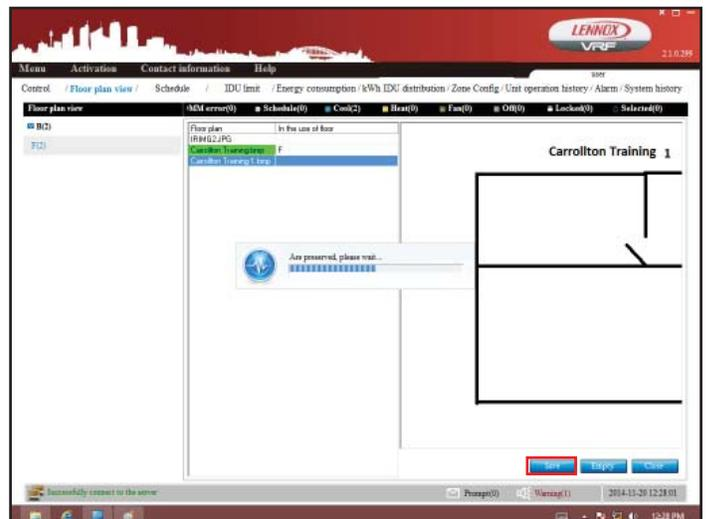

Figure 20. Save Floor Plan
4. Tap the Save button. The floor plan will be saved to the zone. See figure 20.